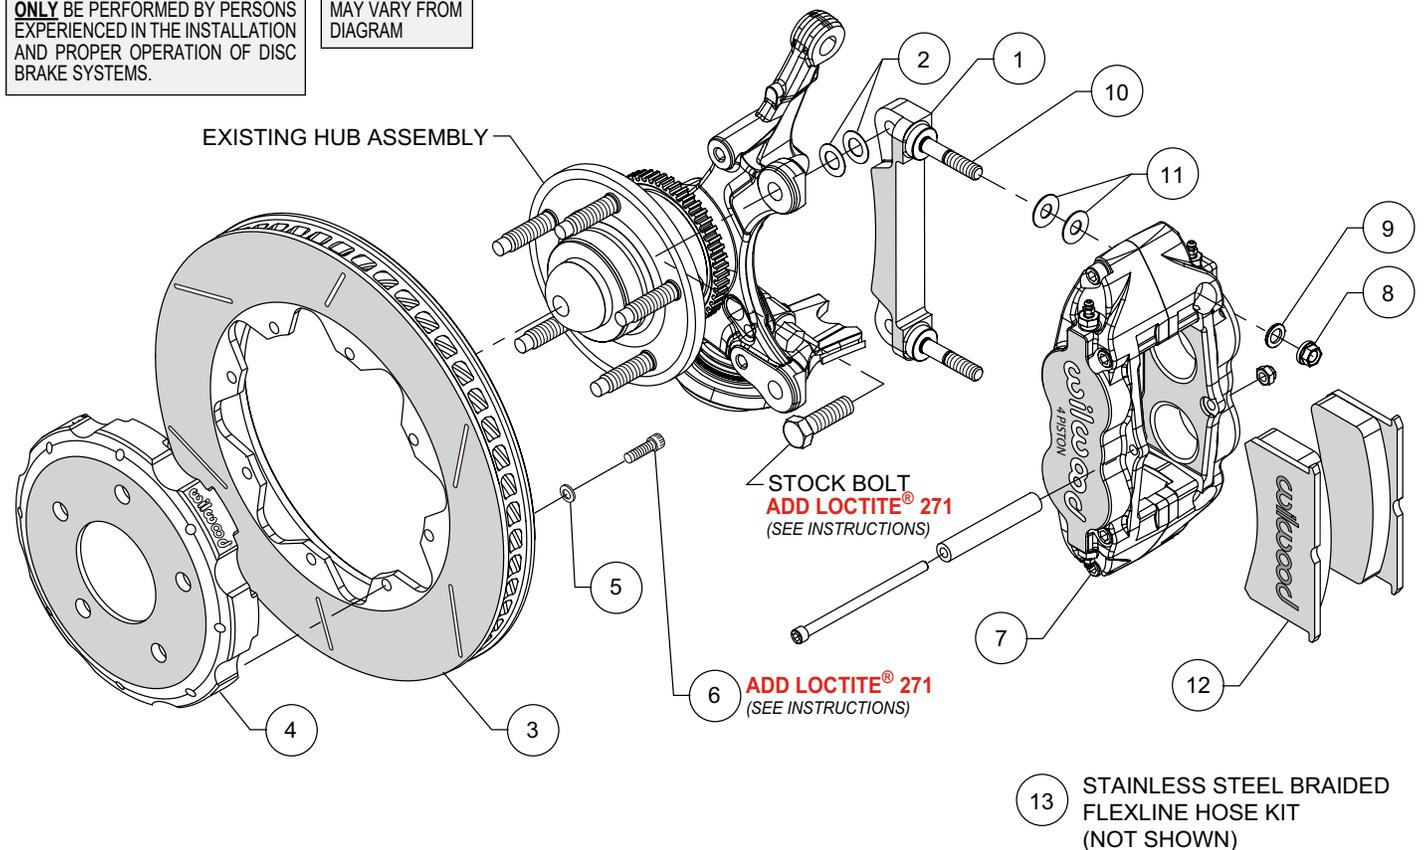
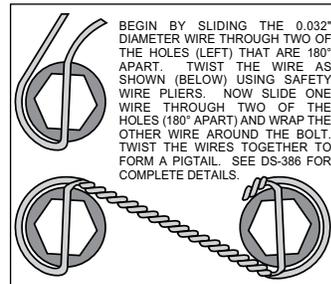

Figure 1. Typical Installation Configuration
Figure 4. Safety Wire Diagram
NOTE: Numbers in parenthesis refer to the parts list and Figure 1 on the preceding pages.
- The caliper mount bracket (1) should initially be installed with clean, dry threads on the mounting bolts. Orient the bracket as shown in Figure 1 and Photo 1, then install using OEM mounting bolts. Initially place two .020" thick shims (2) on each bolt between the bracket and upright, Figure 1. Temporarily tighten the mounting bolts. **NOTE:** The bracket must fit squarely against the mount bosses on the upright. Inspect for interference from casting irregularities, machining ridges, burrs, etc. Later, after the caliper alignment has been checked, the mount bolts will be secured using red *Loctite*® 271.
- Orient the rotor (3) and the hat (4) as shown in Figure 1 and Photo 2. Attach rotor to hat using bolts (6) and washers (5). Apply red *Loctite*® 271 to the bolt threads and torque to 25 ft-lb using a criss-cross pattern. For an added measure of security, the bolts may be safety wired using standard 0.032 inch diameter stainless steel safety wire as shown in Figure 4. Please refer to Wilwood's data sheet DS-386 (available at www.wilwood.com/Pdf/DataSheets/ds386.pdf) for complete safety wire installation instructions.
- NOTE:** This kit contains distinct right and left hand calipers that must be mounted in a specific direction, as described below. Initially place two .035" thick shims (11) on each stud (10) between the caliper and the bracket, as shown in Figure 1 and Photo 3. With the bleed screws pointing up, mount the caliper (7) onto the bracket (1) using lock nuts (8) and washers (9), Figure 1. Temporarily tighten the lock nuts. Ensure that the caliper is mounted so the largest pistons are at the rotor exit end of the caliper, in relation to the direction of the rotor. View the